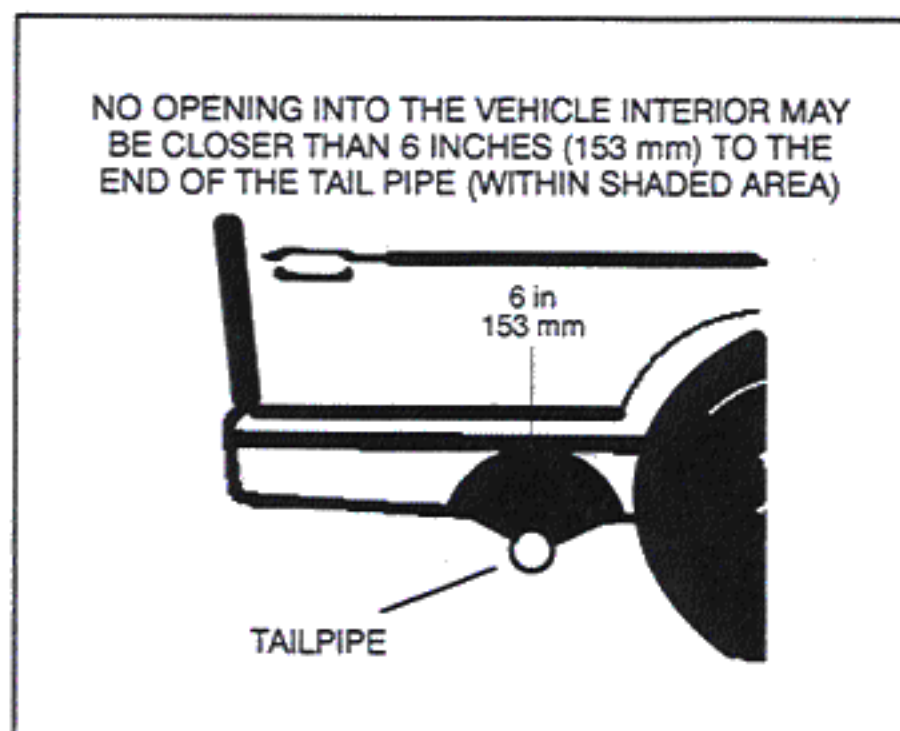

FIGURE 9. MINIMUM DISTANCES TO OPENINGS
10. Do not terminate the tailpipe such that it is closer than 6 inches (153 mm) to any opening, such as a door, window, vent or unsealed compartment, into the vehicle interior (Figure 9).